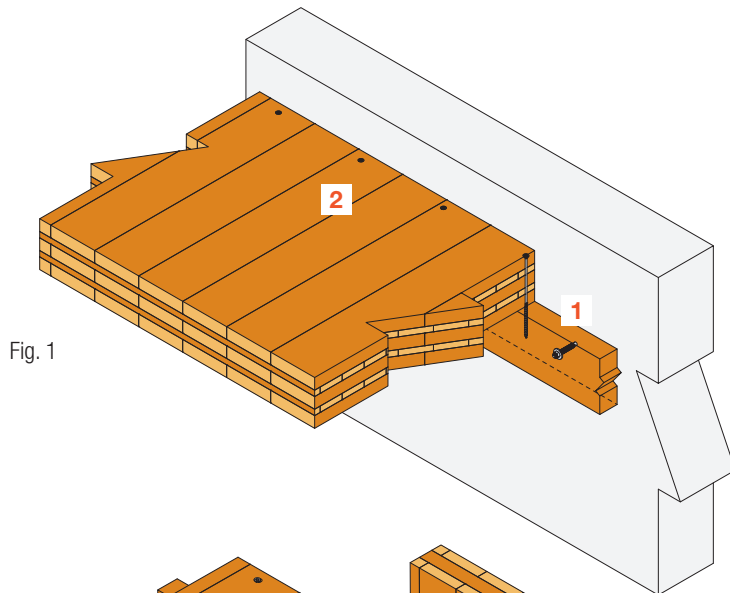

Fig. 1
- Concrete substrate: preferably use throughbolts with a wide washer, such as **WA-RL** (fig. 1).
- Timber wall plate: fix the floor with **ESCR** or **ESCRC** screws (fig. 1 or 2).